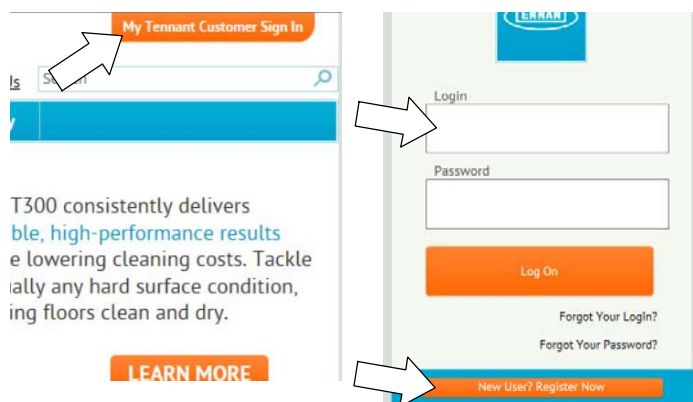

Fig. 17
1. Log in to the “My Tennant” website or register as a new user (Figure 17).